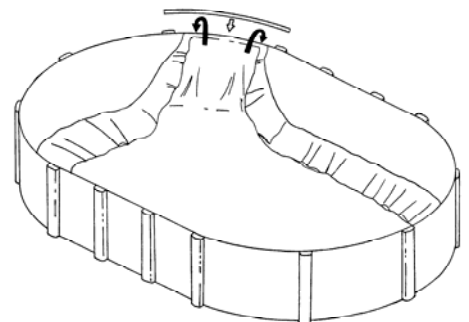

Figure 14.2
- Do not install liner at opposite sides (figure 14.2, 14.3). To avoid liner creases and wrinkles, the liner must be installed moving in one direction.
- Install the top wall channels on the wall (figures 14.2, 14.4), following this step around the circumference of the pool. Do not install liner at opposite sides. To avoid liner creases and wrinkles, the liner must be installed from one direction.